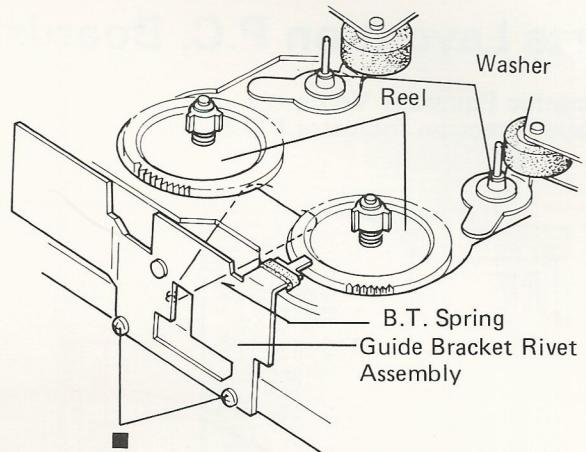

Figure 17
- NOTE:** The washers as shown in Figure 17 are taken off together with the flywheel, be sure not to lose them.
- (2) After replacing the belt and the flywheel with new ones, clean them with absolute alcohol and assemble them in the opposite way to disassembly.
- (3) After assembling, confirm the tape speed and the wow/flutter with the test tape (MTT-111).
- (3) Remove two screws marked "■" to remove the guide bracket rivet as shown in Figure 17.
- (4) Remove B.T. to take off the reel bracket as shown in Figure 17.